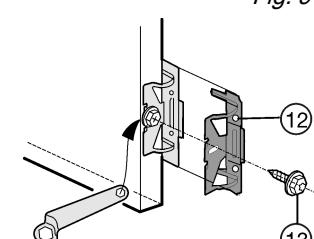

Fig. 10
► Screw all the mounting brackets Fig. 10 (12) to the pre-drilled holes in the appliance door using hexagon screws Fig. 10 (13).
- fit a 2nd pair of mounting brackets Fig. 10 (12).